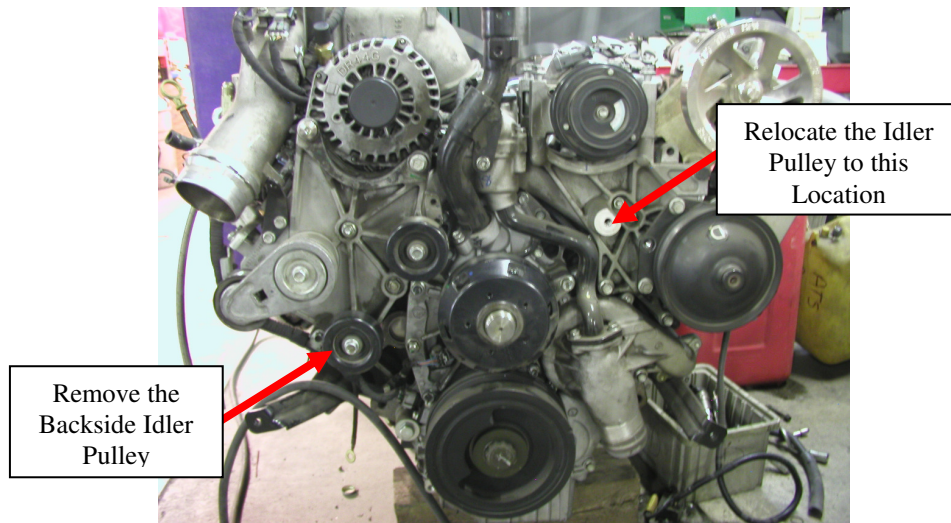

Figure 2: Backside Idler Pulley Location
5. Remove the backside idler pulley shown in Figure 2.
6. Relocate the backside idler pulley to the mount under the AC compressor shown in Figure 2.